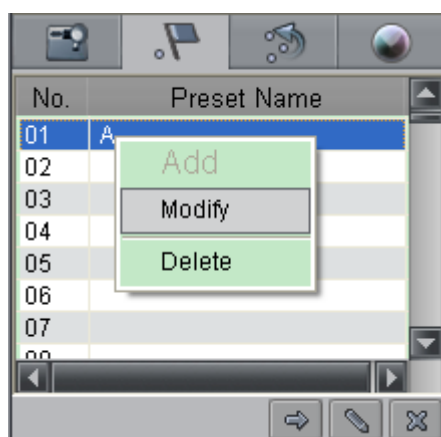
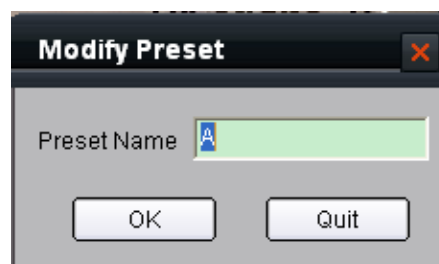

Figure 4.2.21 Modify Preset
Figure 4.2.22 Modify Preset
**Modify Preset:** Right-click the predefined preset from the list and select *Modify* submenu to enter the *Modify Preset* dialog box. Input the new preset name in the text box, and then click OK to modify the preset. Refer to Figure 4.2.21 and Figure 4.2.22.